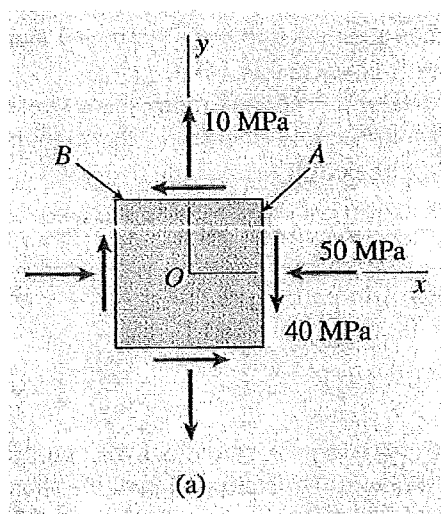

Figure 2
2. [a] At a point on the surface of a generator shaft the stresses are  $\sigma_x = -50$  MPa,  $\sigma_y = 10$  MPa, and  $\tau_{xy} = -40$  MPa, as shown in Figure 2. Calculate the following: